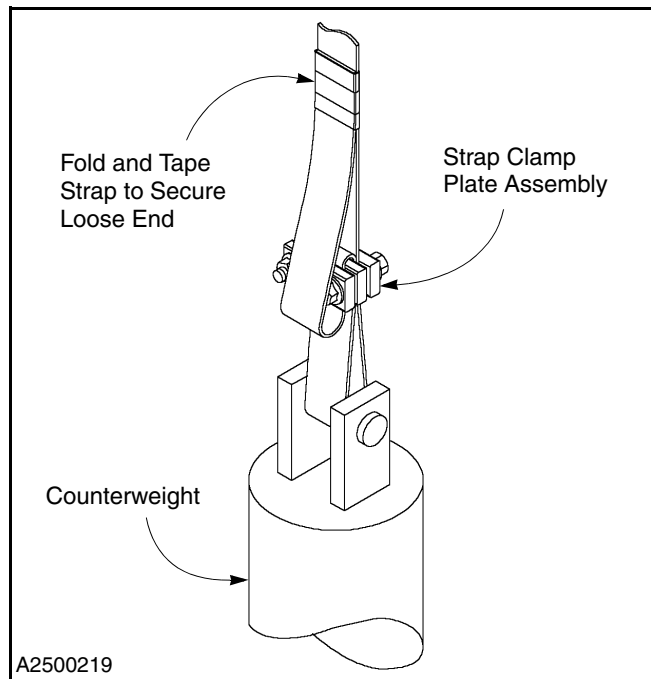

Figure 56
7. After all adjustments are complete, cut off any excess strap to within 6 in. of the strap clamp plate assembly. Then fold and tape the loose end of the strap to the main length of strap. (See Figure 56.)